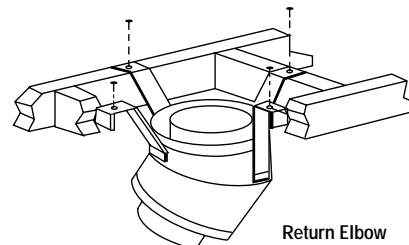

Figure 49
- Step 5.** Secure support straps to framing members by nailing under tension in shear (*Figure 49*).